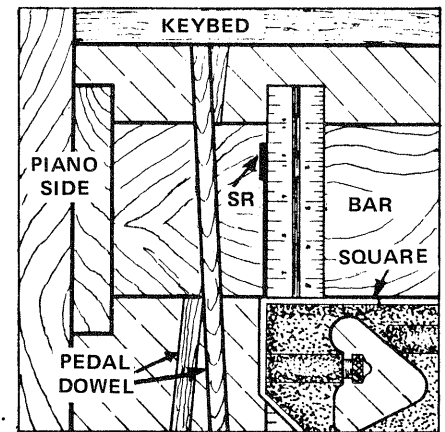

FIGURE 1-31 Draw a line from the mark (SR) to the bottom of the Support Bar.
Locate the mark labelled "SR" on the LEFT side of the Support Bar. Use a pencil or felt pen and a square to draw a line from the mark (SR) to the bottom of the bar as shown in FIGURE 1-31. Repeat this procedure at the mark (SR) at the RIGHT side of the bar. See the NOTE below.